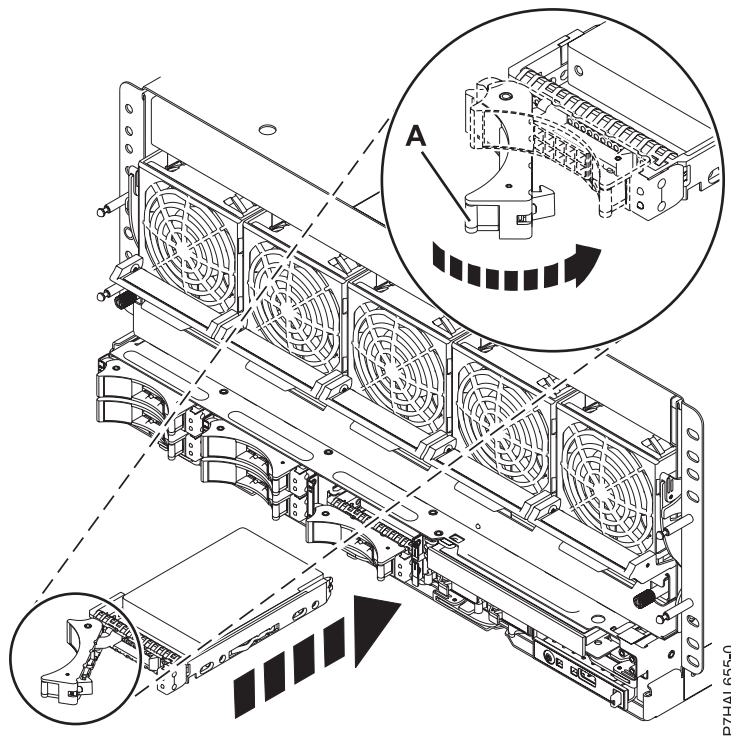
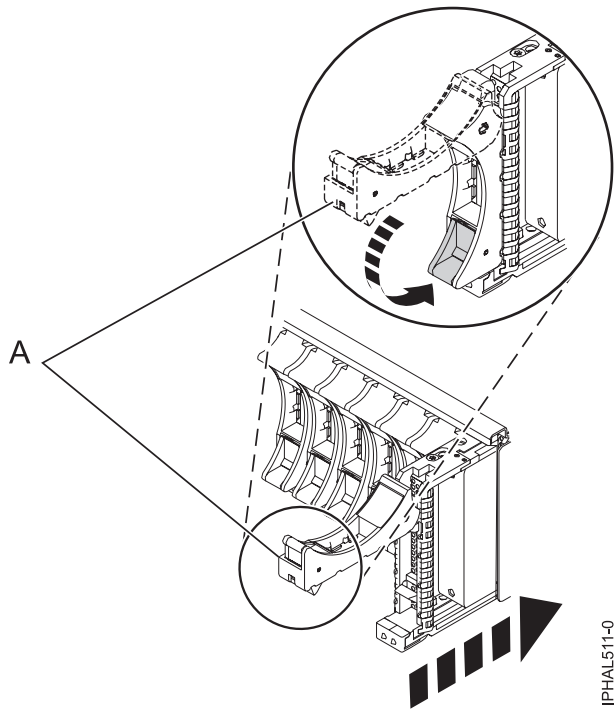

Figure 1. Installing the disk drive in the system
Figure 2. Installing the disk drive in the 58/03 expansion unit
7. When the identify LED turns on solid, slide the drive all the way into the system or an expansion unit, and push the drive handle in until it locks. See Figure 1 showing installing a drive in the system and Figure 2 on page 8 showing installing a drive in the 58/03 expansion unit.